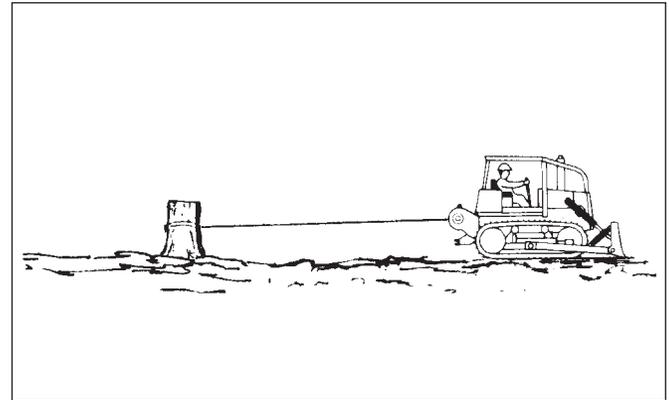

Figure 18 - Moving a Disabled Vehicle (Step A)
A. A tractor or skidder often travels in areas where traction conditions are bad. A vehicle equipped with a winch can be used to remove itself from mud or other areas where it cannot move using only the drive wheels or tracks. See Figure 18. Use the following procedure: